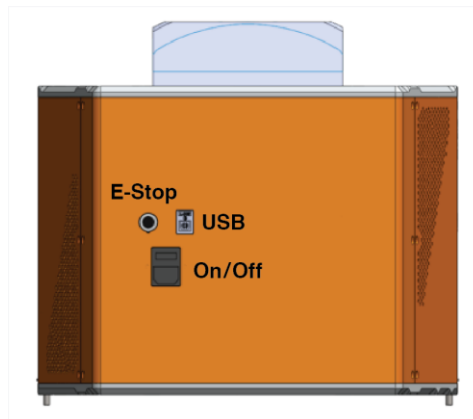

Fig. 3-5 Back view: clockwise from top left, emergency stop (E-stop) port, USB port, on/off switch
2. Connect the appropriate power cord, E-stop switch and USB cable. Refer to Fig. 3-5.